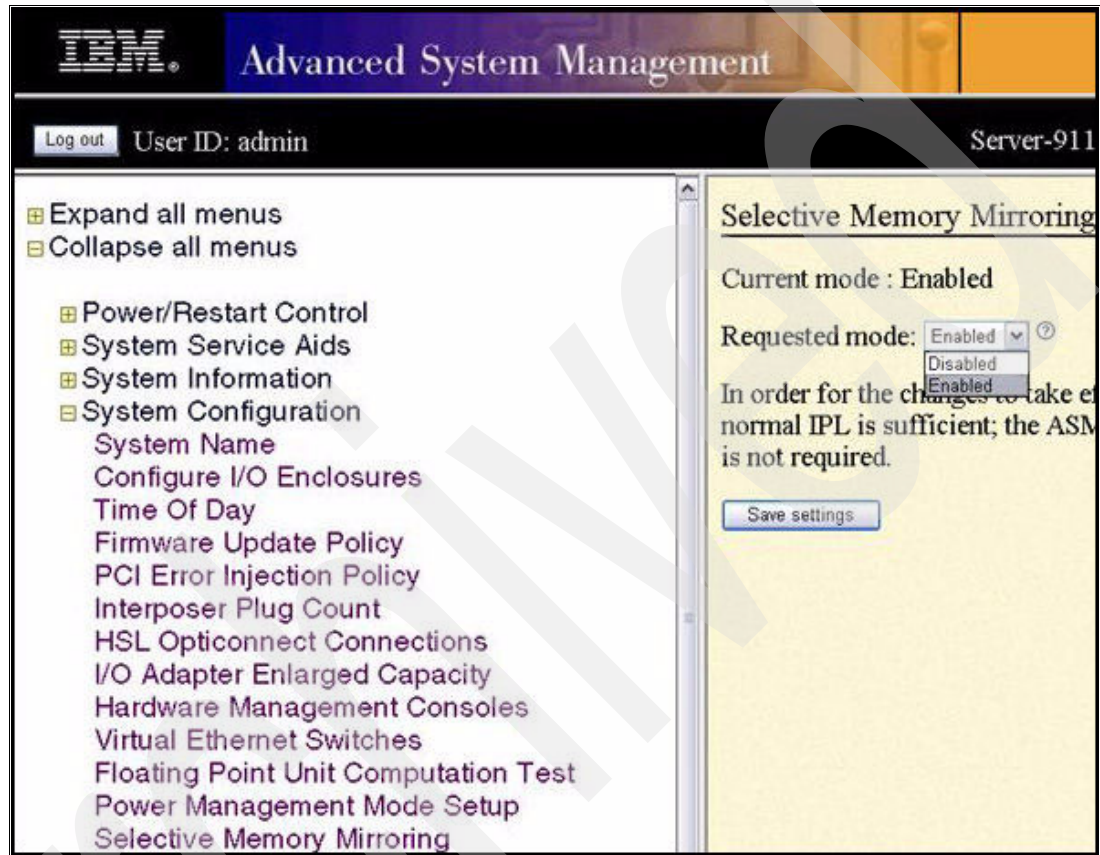

Figure 2-4 Memory Mirroring enablement via the ASMI interface
3. In the right pane, select the Requested mode (Enabled or Disabled) and click **Save settings**, as shown in Figure 2-4.